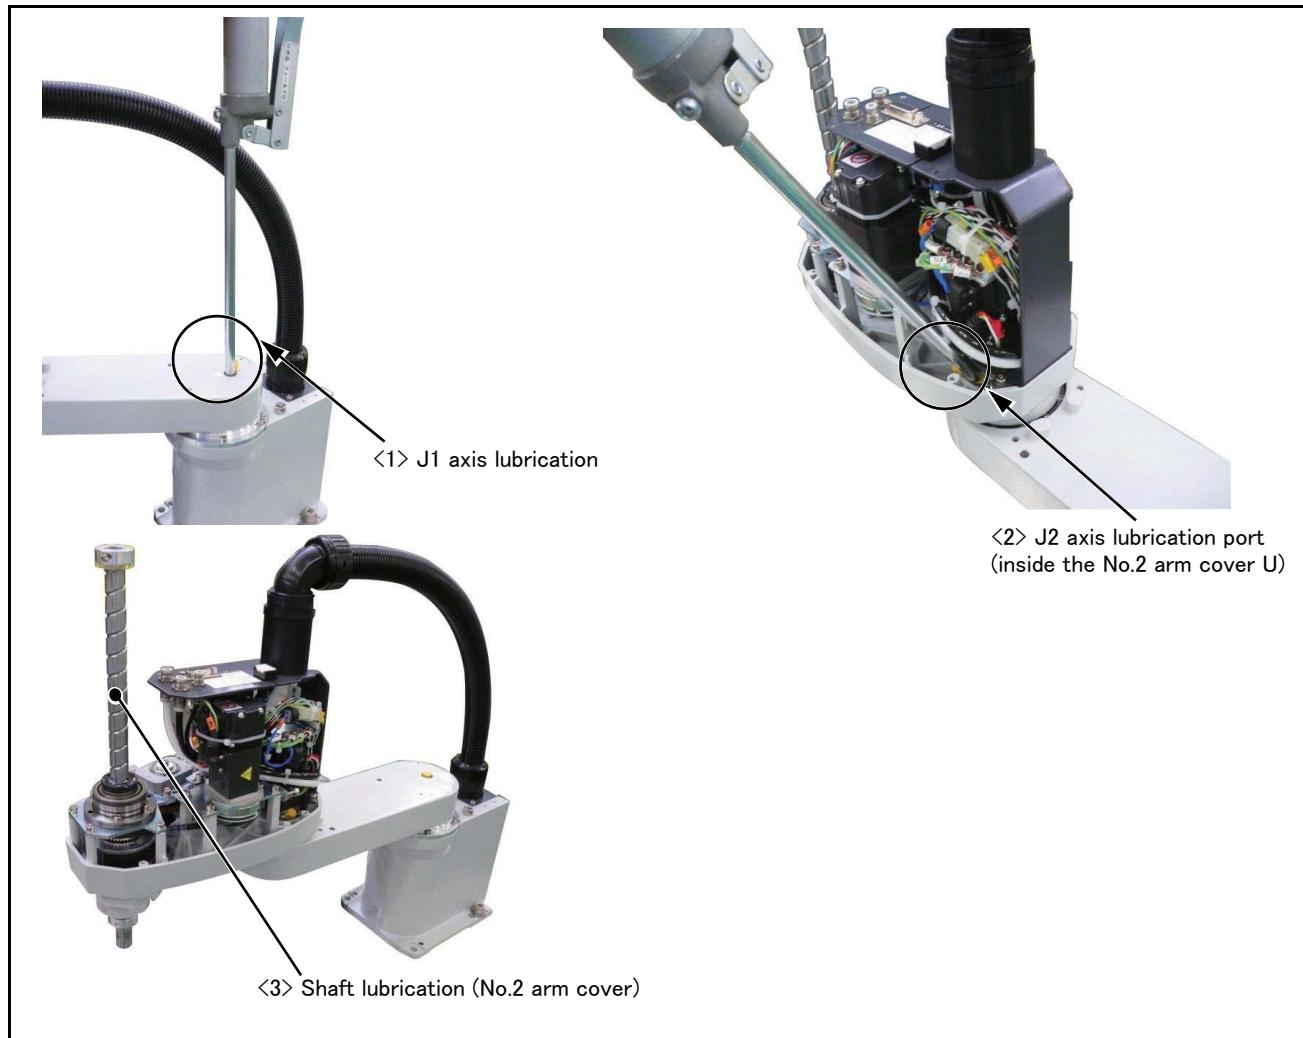

Fig.5-12 : Lubrication positions
The grease nipple position is shown in Fig. 5-12. The lubrication specifications for each place are shown in Table 5-8. Refer to the Page 56, "5.3.2 Installing/removing the cover" for the method of removing and installing the cover.
- The numbers in the Table 5-8 correspond to the supply positions in Fig. 5-12.
(2) Lubrication method to the J1, J2 axis